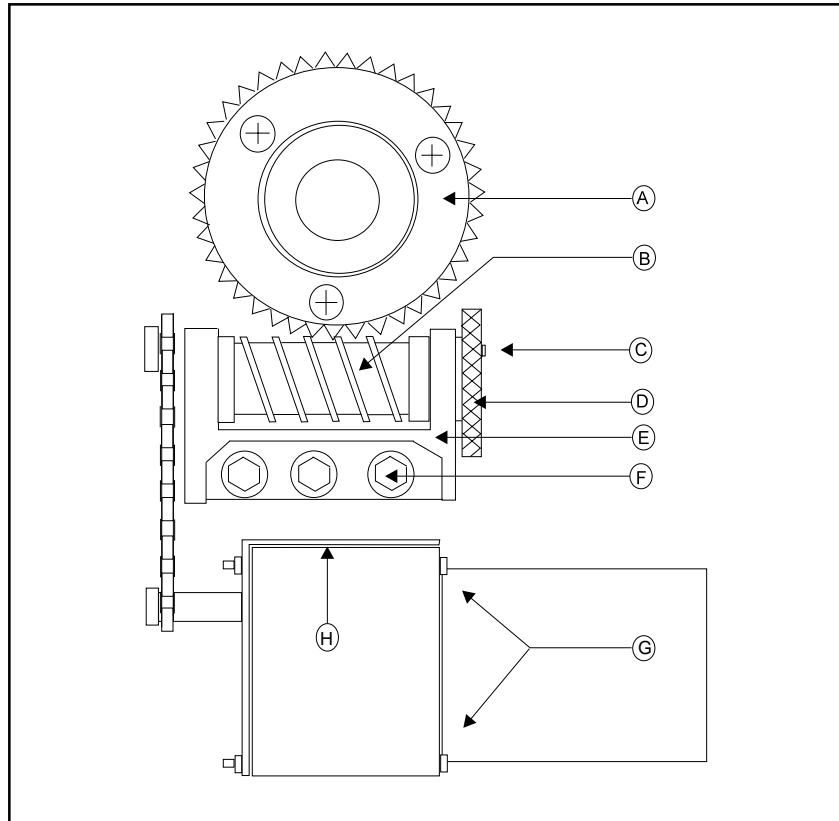

Figure 1. Pan and Tilt Adjustments
3. Refer to Figure 1. It shows the parts locations of the tilt assembly. Look for similar orientations of parts when adjusting the pan assembly.
- a. Verify that the worm drive (B) is fully seated in the worm gear (A). If it is not:
- (1) Locate the worm-driven gear for either the pan or the tilt motor linkage. Loosen the three hex screws (F) holding the worm in place, but leave enough thread in place to hold the assembly on the mount.
- (2) Using your thumbs, gently move the worm forward or pull the assembly back from the worm gear to either tighten or loosen the gear spacing to the worm gear. Move the base of the pan and tilt to check the adjustment.
- (3) If you get movement in the base, press a finger down in the middle of the worm assembly. If you get no movement in the base, use your thumb and forefinger to pull the worm assembly back until you get movement.
- (4) When the spacing is correct, tighten the hex screws. Start with the middle screw to ensure proper spacing.
- (5) Remove the screw (C) in the gear train nut (D).
- (6) Tighten the gear train nut to remove any play.
- (7) Line up the hole in the gear train nut with the nearest hole in the gear train bracket (E).
- (8) Replace the screw.
- b. Refer to Figure 1. Adjust chain tension, if needed:
- (1) Locate the pan or tilt motor on the assembly. Loosen the hex screws (G) that hold the motor to its mounting bracket. Depending on which motor assembly you are adjusting, there will be either three (pan) or four (tilt). (Only two screws are shown in Figure 1.)
- (2) Using a screwdriver, pry the motor down (at H) to tighten for the correct chain tension. (You should not be able to freely move the motor with your finger, nor should it be so tight that it will not move at all as this usually leads to binding.)
- (3) Tighten the hex screws.